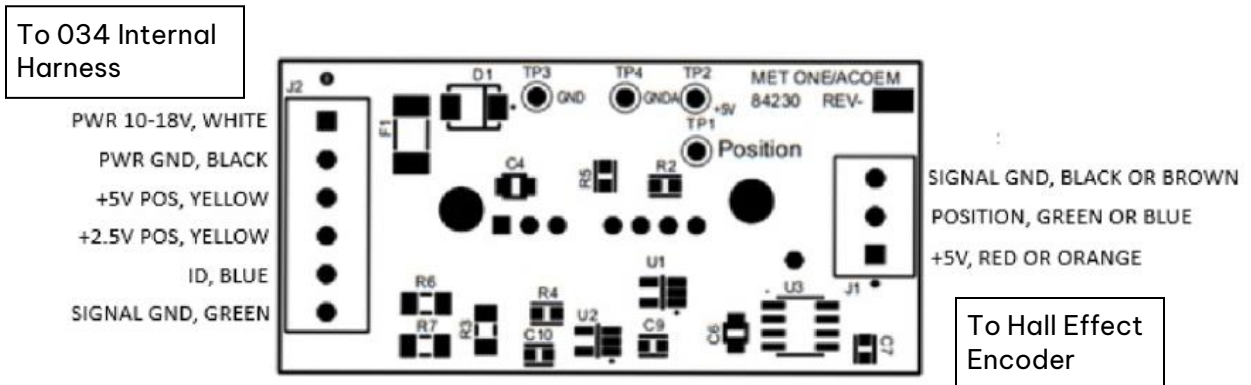

Figure 3-3 84230 PCBA Pinout
- **Output Range:** The sensor provides a selectable **0 to 5 VDC** "default", or **0 to 2.5 VDC** output signal "selectable" (Refer to Figure 3-3 for wiring).
**⚠ WARNING:** Before connecting the Wind Direction signal, verify the data logger's analog input specifications. Ensure the input channel is configured to accept a **0–5 VDC** signal. If not, refer to Figure 3-3 for configuring to 0–2.5 VDC output. Connecting a 5V signal to a logger restricted to 2.5 VDC or lower (common in some low-power meteorology stations) may result in signal clipping (flat-line data) or damage to the logger input.